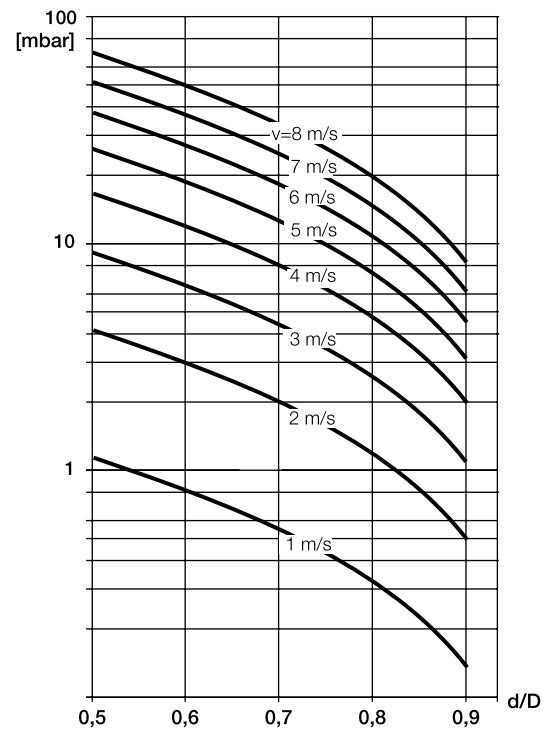

Figure 16 Nomograph for pressure drop calculations for flange transition piece with $\alpha/2 = 8^\circ$
- 2 Determine the flow velocity based on the flow range nomograph (Fig. 16).
- 3 Read the pressure drop on the Y-axis in Fig. 16